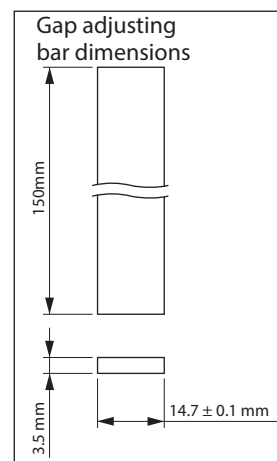

Figure 8-23
- (3) Insert the gap adjusting bar (customer to prepare an angle plate. See Figure 8-23) from between the outer disc [14] and the center ring [1] into a hole for a gap adjusting screw [2].